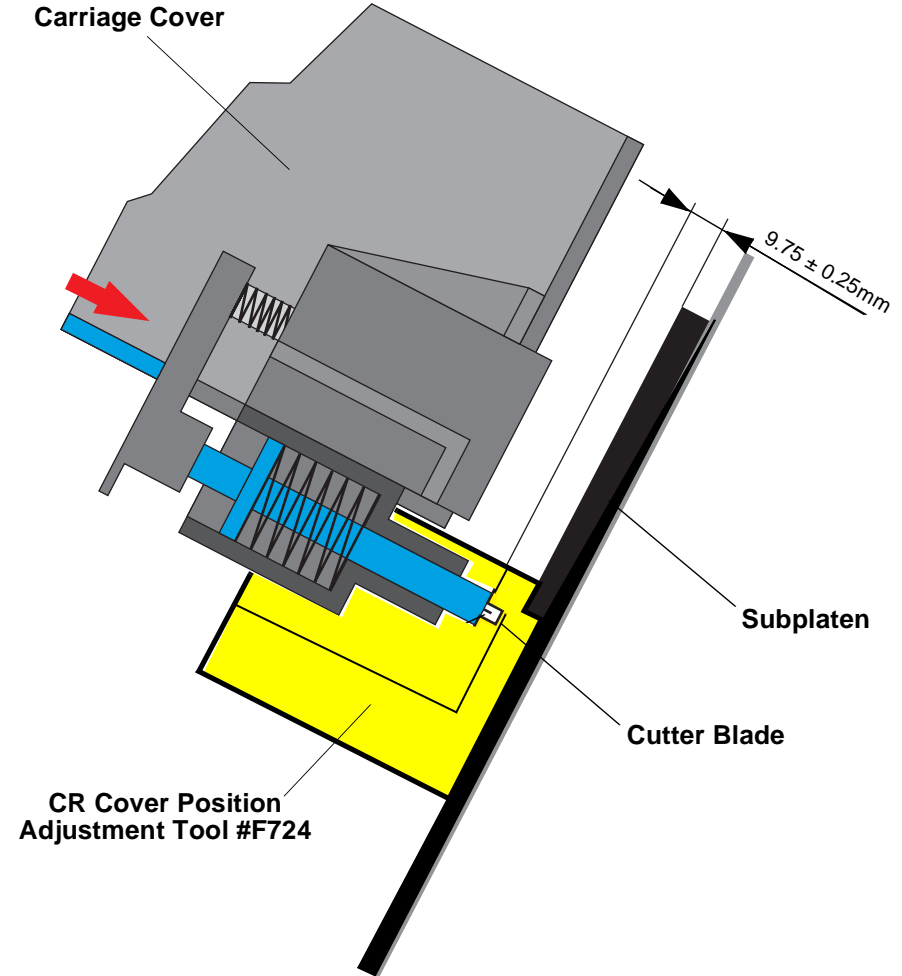

Figure 5-14. Carriage Cover Position Adjustment Tool
3. Set the Carriage Cover Position Adjustment Tool on the Subplaten (the upper surface of the Lower Paper Guide) as shown in Figure 5-14.